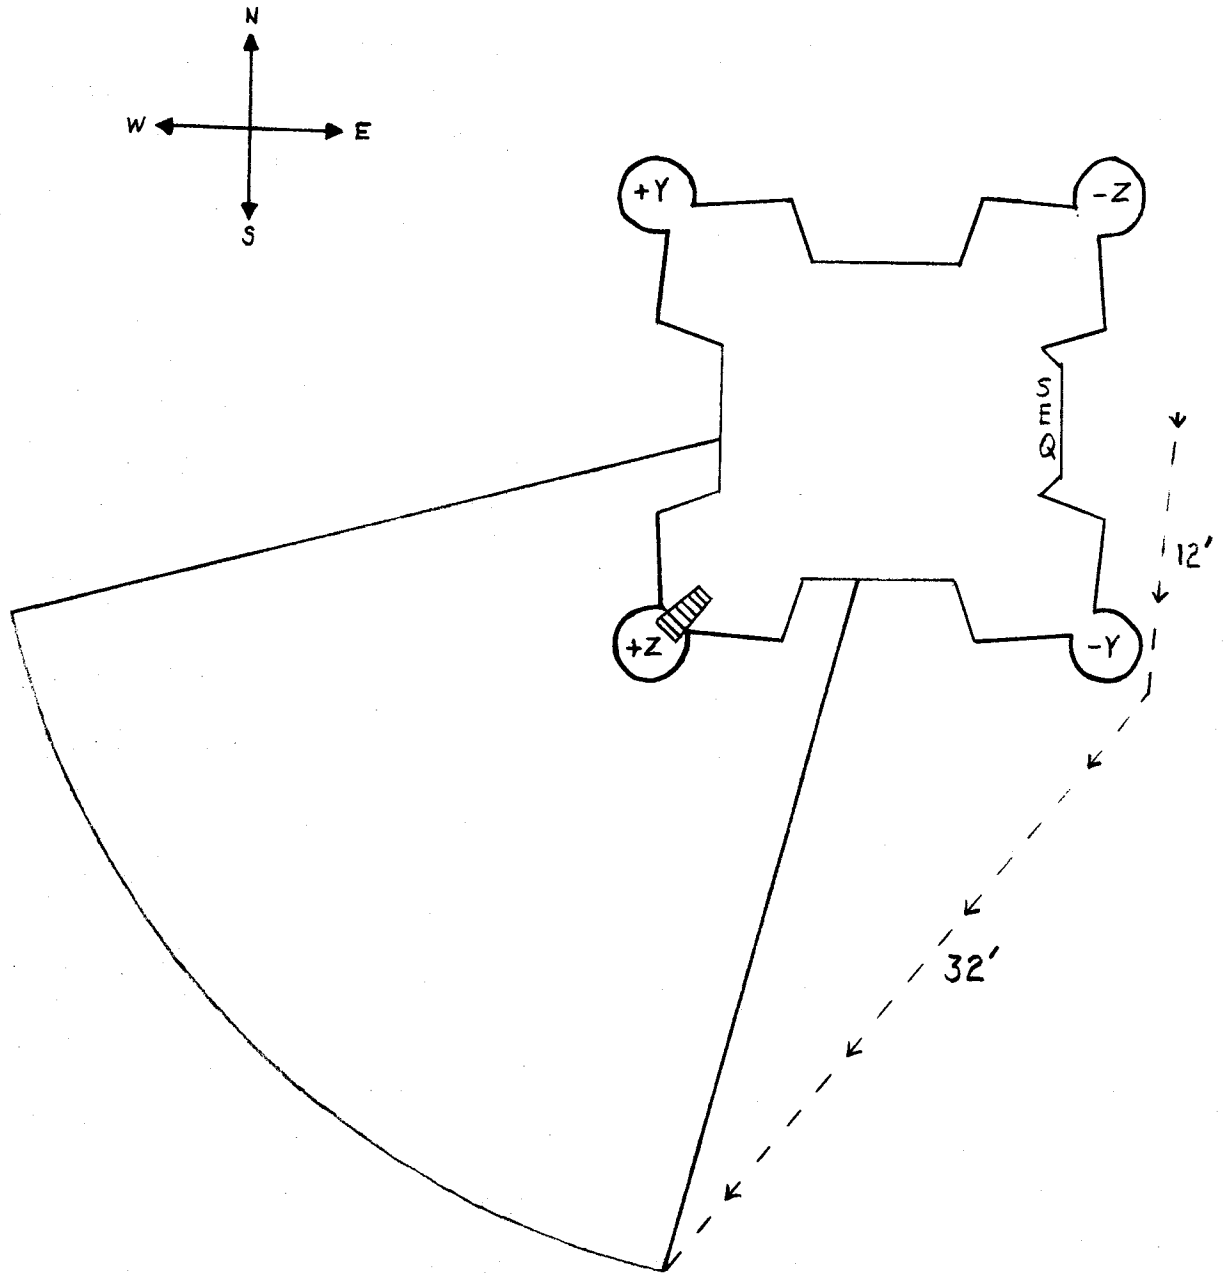

FIGURE NO. 1 - TRAVERSE TO DEPLOYMENT SITE
2. EASEP (LRRR and PSEP) deployment does not include Lunar Module (LM) Scientific Equipment Bay (SEQ) Door operations, but does include all boom assembly operations.
5. The astronaut takes the most direct route to the deployment site as shown in Figure No. 1.